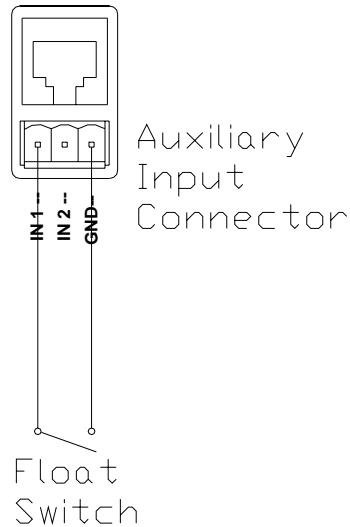

Figure 8-1 Float Switch Wiring
2. Connect the switch to Auxiliary Input #1 or Auxiliary Input #2 using the 3-pole YSI 065942UL Pluggable Socket Connector. See Figure 8-1.